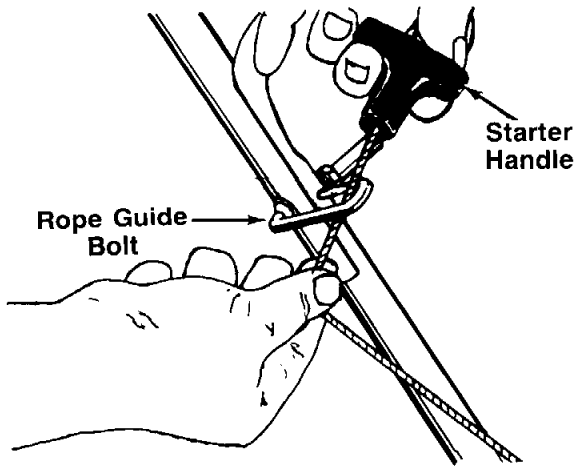

FIGURE 12.
3. Slip the starter rope into the rope guide bolt as shown in figure 12.